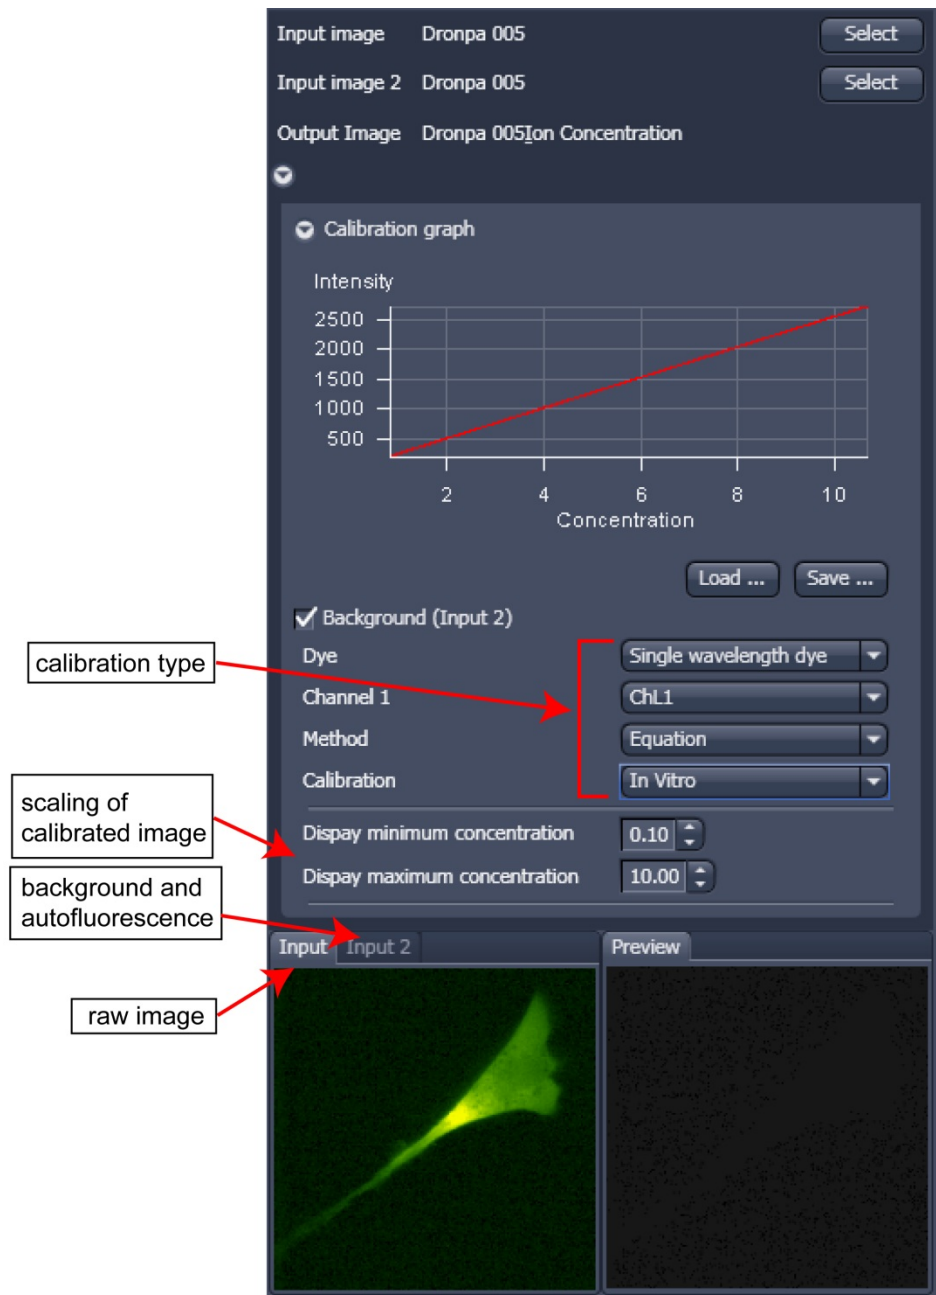

Fig. 279 Ion concentration panel
- Subtract background/ autofluorescence image from raw images to obtain better raw data to start with (Fig. 279).